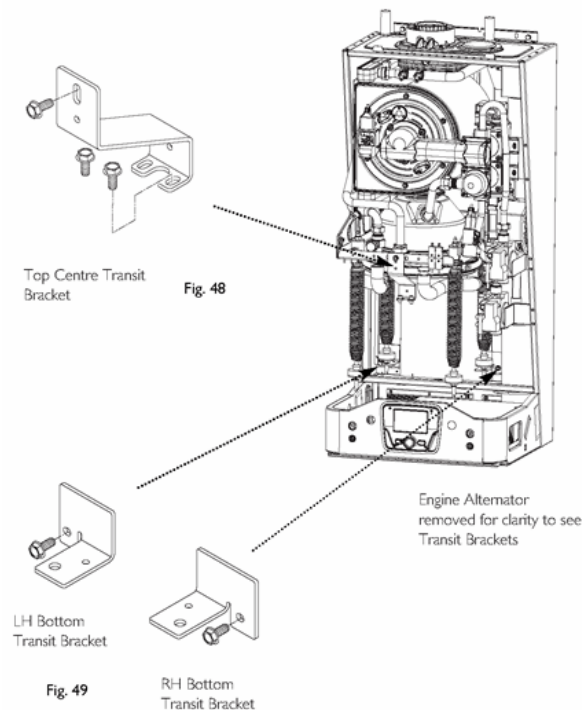

Fig. 48 & Fig. 49
1. The engine is held securely for transit by 3 brackets (Figs. 48 & 49). To ensure that all 3 brackets are removed before firing the appliance, two security measures must be overcome:
Remove the top centre bracket by removing the three M5 screws (8mm spanner) (Fig. 48).